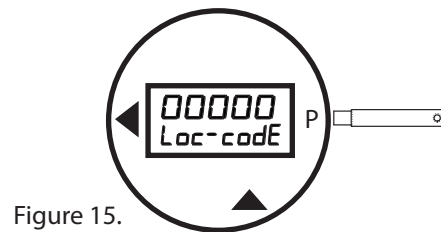

Figure 15.
- Hold the magnetic wand at the **P** on the right side of the register. After five seconds the register will display "Loc-codE" (Figure 15). The last digit will flash.